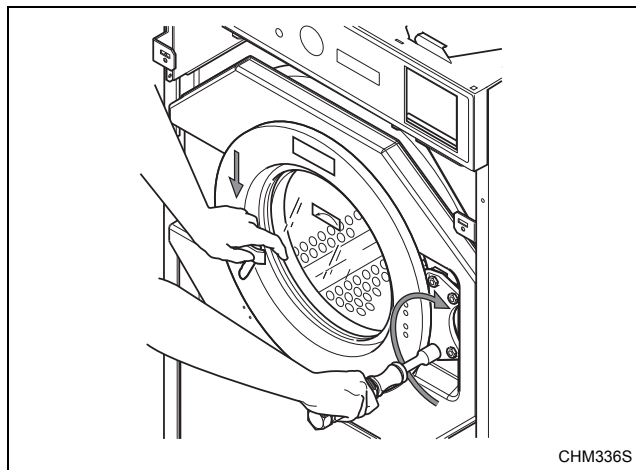

Figure 55
5. While pushing the door handle down against the L-catch, retighten the door hinge nuts. Refer to *Figure 55*.